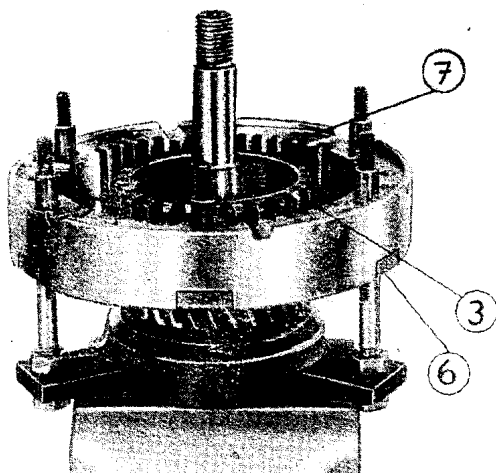

Fig. 19. Assembling the clutch - 1st phase
Sequence of clutch assembling (Figs. 19, 19a, 20, 21)
- Put internal driver with drive gear (3) on the assembling device (Fig. 19);
- Place the pressure plate with spacer bolt (6) on the supporting screws of the assembling device (Fig. 19);
- Put the gear ring (7) in place (Fig. 19);
- Alternately fit internal segments (8) and external segments (8a) (the parcel of segments is centred by the internal driver);